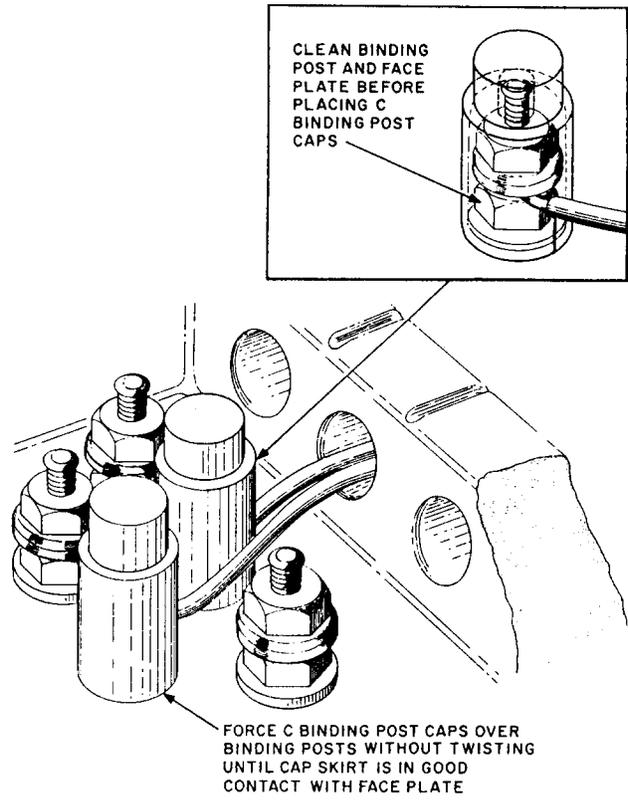
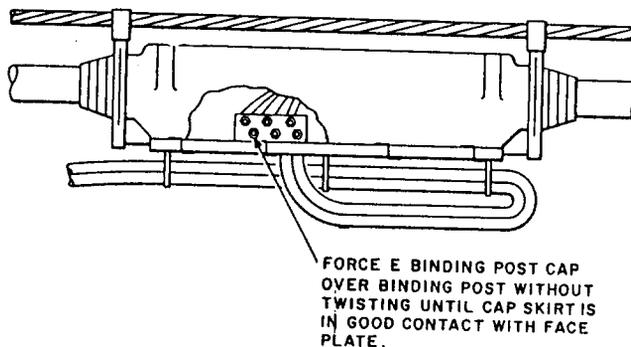

Fig. 31 - Placing C Binding Post Caps
Fig. 32 - E Binding Post Caps Placed in 49-Type Cable Terminal
- 6.13 Place the caps over the binding post with the slit in the line with the terminated wire. Force the cap down over the binding post with terminated wire in the slit until the skirt of the cap is in good contact with the faceplate. Adjust the terminated wire so that it is positioned inside the hole of the cap as indicated in Fig. 31.
- 6.14 The C binding post caps are shown in Fig. 31. The E, F, G, and H binding post caps are installed in the same general manner. Figure 32 illustrates an E binding post cap placed inside a 49-type terminal.